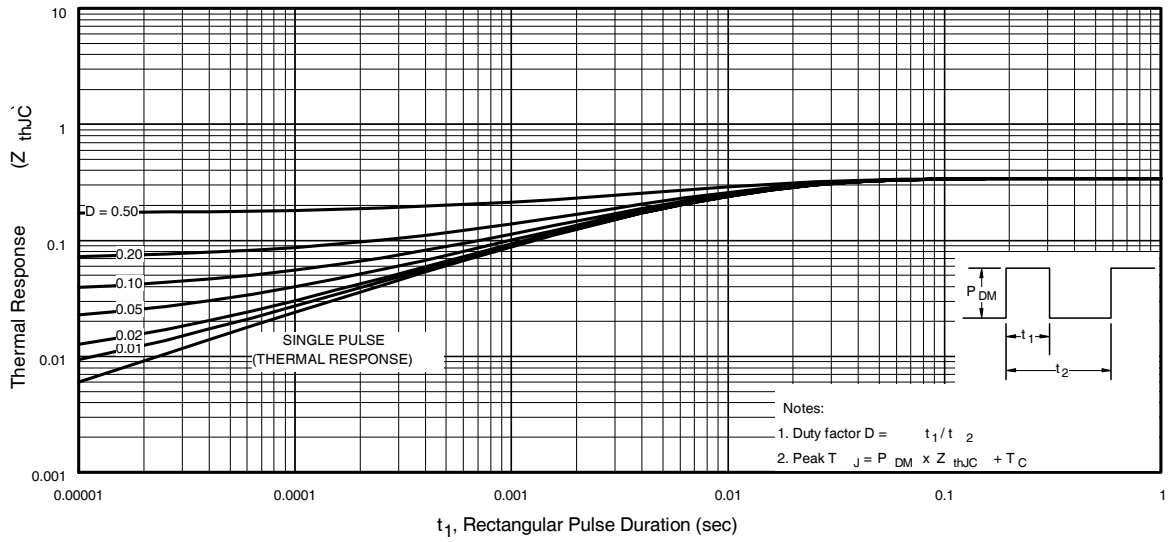

Fig 12. Maximum Effective Transient Thermal Impedance, Junction-to-Case
- ② Starting $T_J = 25^\circ\text{C}$, $L = 1.5\text{mH}$, $R_G = 25\Omega$, $I_{AS} = 23A$, $dv/dt = 21V/ns$. (See Figure 12).
- ③ $I_{SD} \leq 23A$, $di/dt \leq 650A/\mu s$, $V_{DD} \leq V_{(BR)DSS}$, $T_J \leq 150^\circ\text{C}$.
④ Pulse width $\leq 300\mu s$; duty cycle $\leq 2\%$.
⑤ $C_{oss \text{ eff.}}$ is a fixed capacitance that gives the same charging time as C_{oss} while V_{DS} is rising from 0 to 80% V_{DSS} .